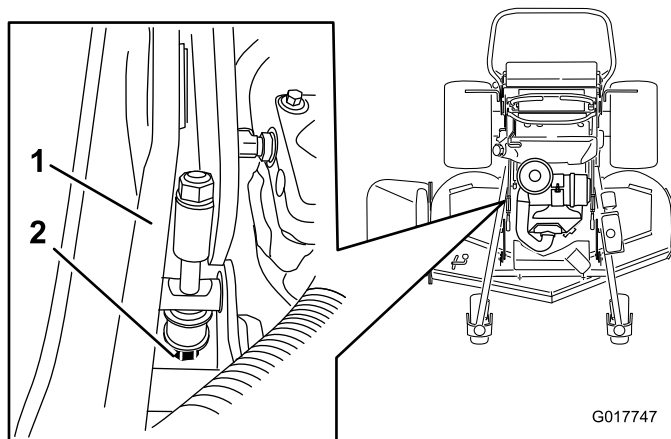

Figure 96
5. If it does not measure correctly, locate the height-of-cut rod on the right side of the machine (Figure 96).
6. Adjust the adjustment bolt until the blade tips match 3 inches (7.6 cm) (Figure 96).